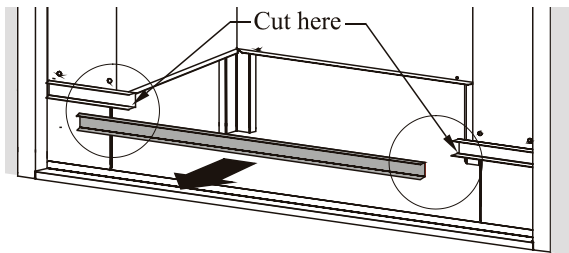

Figure 16. *Cutting the front bar.*
6. Cut the front bar to allow clearance to install the Heating Insert. Using a hacksaw, make the cut approximately 2" in from the side of the firebox, as shown in figure 16.